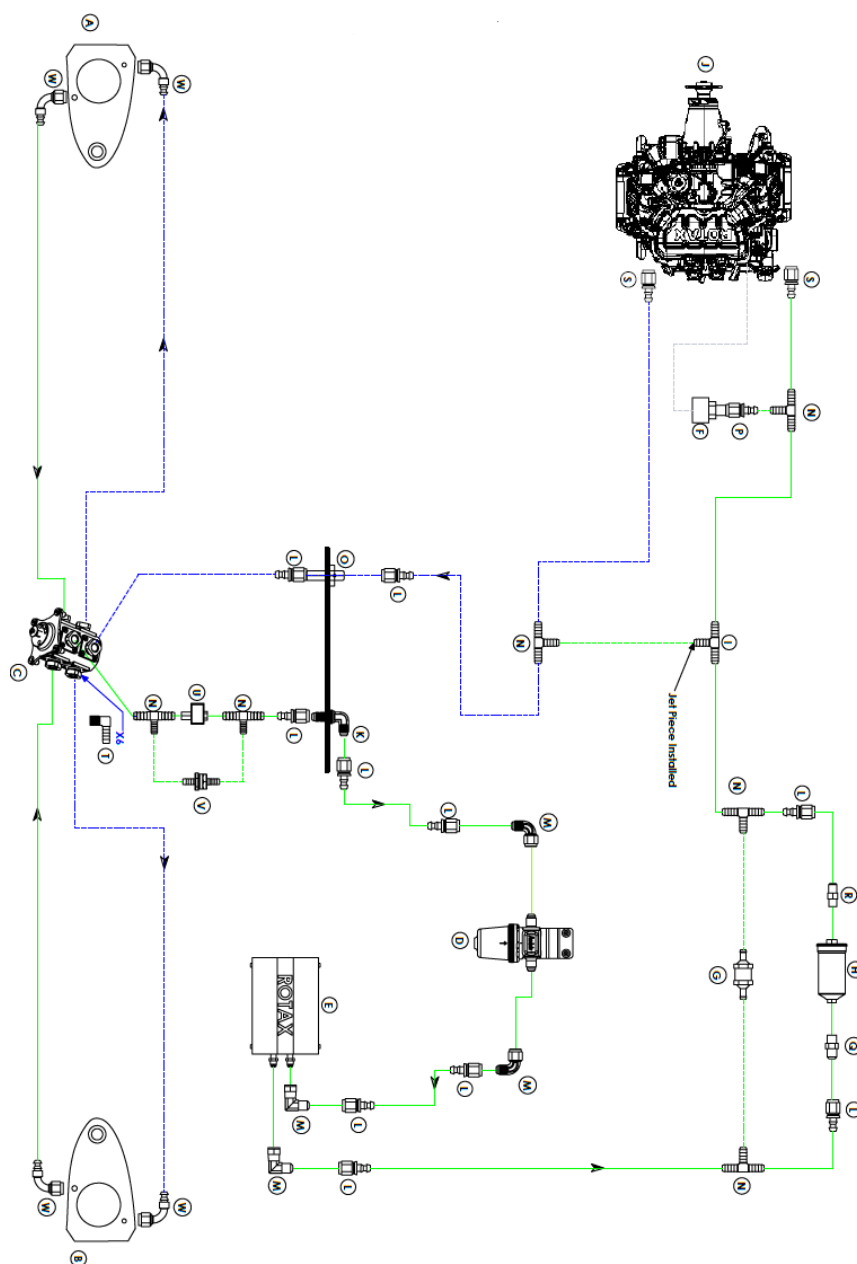

Figure 54: Fuel system.
Figure 54 which illustrates the fuel system with a Rotax fuel pump assembly (E). Some aircraft are alternatively fitted with Andair duplex fuel pumps. The aircraft is equipped with two aluminium fuel tanks (A, B) within the wing leading edges, accessible for inspection through dedicated panels.